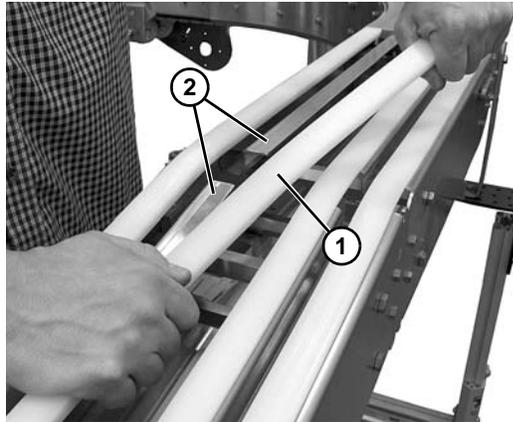

Figure 33
2. Press wear strips (**Figure 33, item 1**) off conveyor rails (**Figure 33, item 2**).